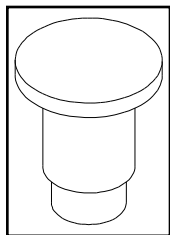
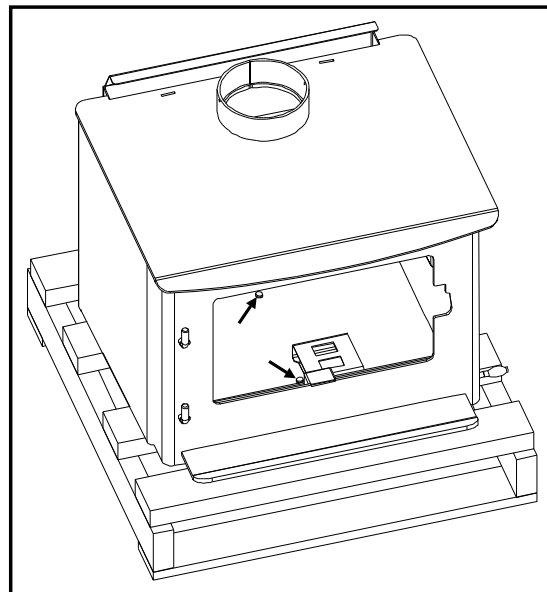

Figure 12:
Figure 13: Bolts to remove.
- Remove the two (2) carriage bolts (shown in Figure 13) that secure the unit to the pallet from inside the firebox.
Note: After the pedestal or legs and ash pan have been installed but before the bricks are installed, rivets (Figure 12) must be placed in the two (2) holes (shown in Figure 13) in the firebox that carriage bolts came out of. This is done to make unit burn more efficiently. The shoulder rivets are found in the manual bag.